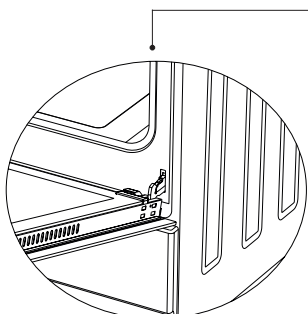

Figure 14.1
1. Completely open the oven door by pulling it to yourself. Afterwards, perform the unlocking process by pulling the hinge lock upwards with the help of a screw driver as shown in figure 14.1.